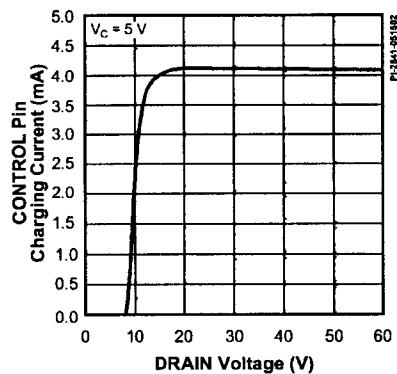

Figure 44. Ic vs. DRAIN Voltage.
- D. It is possible to start up and operate *DPA-Switch* at DRAIN voltages well below 16 V. However, the CONTROL pin charging current is reduced, which affects start-up time, auto-restart frequency, and auto-restart duty cycle. Refer to Figure 44, the characteristic graph on CONTROL pin charge current (I_C) vs. DRAIN voltage for low voltage operation characteristics.